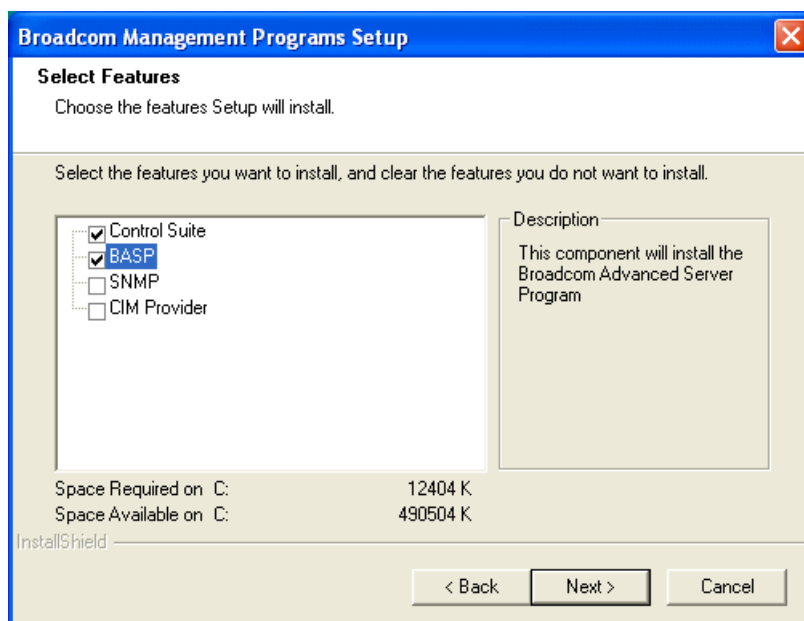

Figure 6-11 Select Features window
2. Click **MANAGEMENT PROGRAMS**, and a window similar to Figure 6-11 opens.